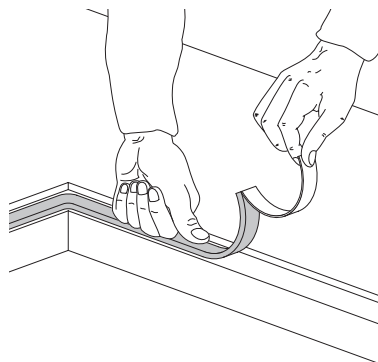

Fig. 5: *positioning the insulating gasket*
- Before positioning the top, lay the sealer gasket provided on the entire milling surface [Fig. 5].